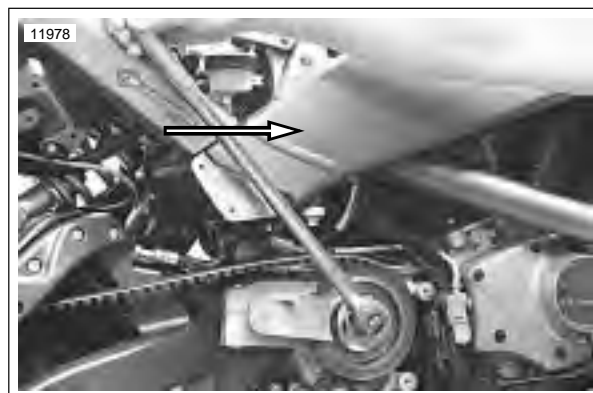

Figure 6-102. Removing Transmission Sprocket Locknut (Typical)
9. Place transmission in neutral. See Figure 6-102. Install the P3/Blast SPROCKET HOLDING TOOL to hold the sprocket.
10. Remove transmission sprocket nut (3) from main drive gear (5) using MAINSHAFT LOCKNUT WRENCH (Part No. HD-94660-37B or HD-46288) and a breaker bar.
11. Remove secondary drive belt from transmission sprocket. Remove transmission sprocket (4) from main drive gear (5).